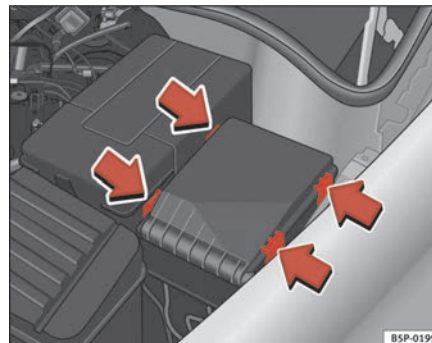

Fig. 175 Fuse box cover in engine compartment
- Prise off the fuse cover in the engine compartment by pressing the tabs towards the centre of the cover ⇒ fig. 175.